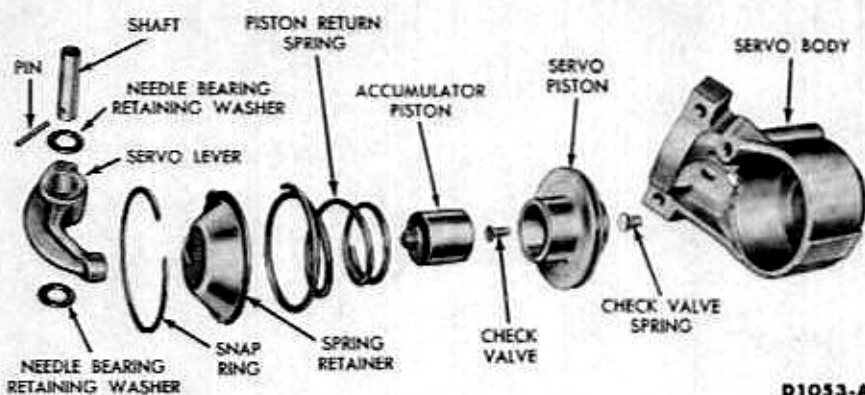

FIG. 23—Rear Servo
6. Inspect the servo body for cracks and the piston bore for scores (Fig. 23). Inspect the servo body to transmission case mating surface for burrs.